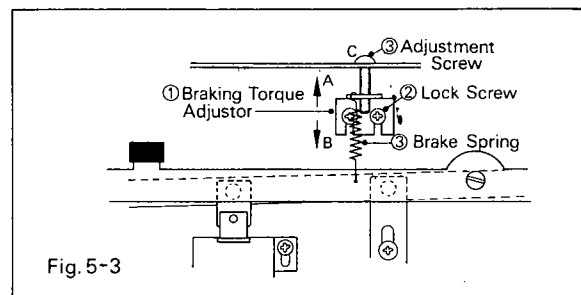

Fig. 5-3
Fig. 5-3 and Fig. 8 on page M-14.
- 3) Loosen the two screws securing the Braking Torque Adjuster ① in Fig. 5-3, then turn the adjustment screw ③ so that the spring balance will indicate a brake torque of from 700 to 800g.